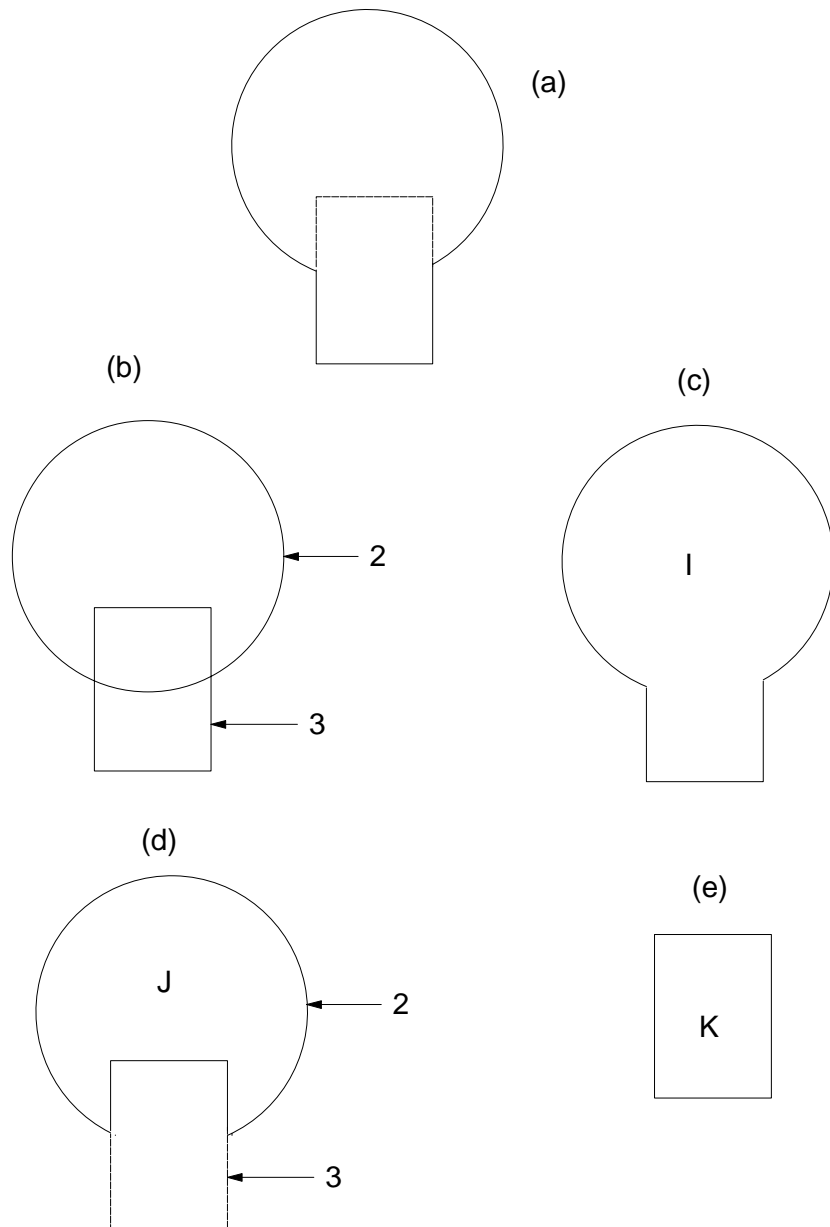

Figure 1: Examples of Combinatorial Geometry Method.
Consider an object composed of a sphere and a cylinder as shown in Fig. 1. To describe the object, one takes a spherical body (2) penetrated by a cylindrical body (3) (see Fig. 1). If the